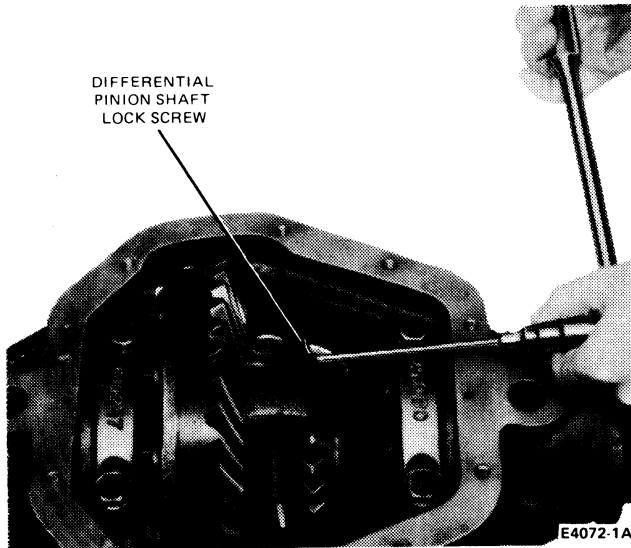

FIG. 3 Removing Differential Pinion Shaft Lock Screw
5. Remove the differential pinion lock shaft screw as shown in Fig. 3.